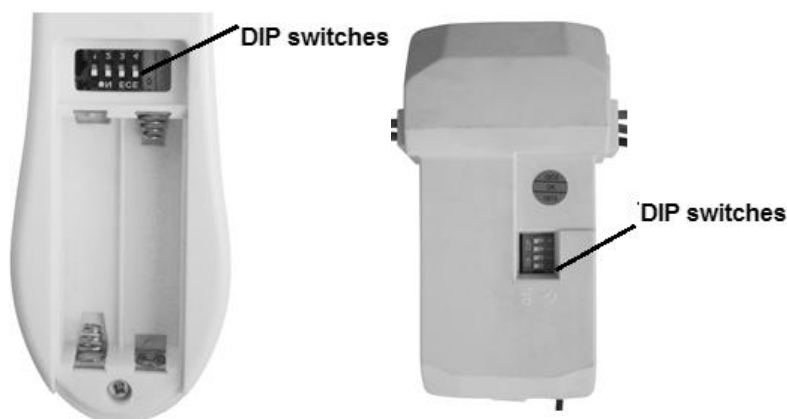

Fig. 15 Remote battery compartment
Your ceiling fan is controlled via the remote control. There are 4 buttons (HI, MED, LOW, OFF) to control the fan speed and one button to control light on/off. **Fig. 15**
- 2 x AAA 1.5V (size) batteries are required to operate the remote control. Remove the battery cover from the back of the remote and insert 2 x AAA batteries. Ensure the polarities are correct as shown in the battery compartment. (Fig.15) (Batteries not included.)